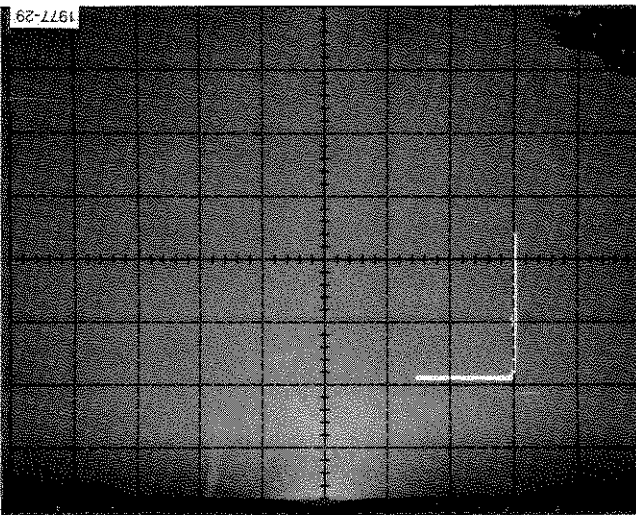

Fig. C-11. Display of maximum output sink current.
- c. Turn the Variable Collector % control slowly clockwise until a knee appears on the trace as shown in Fig. C-11. The current represented by the knee of the curve is the maximum that the particular device under test is capable of passing, in this case about 90  $\mu$ A.